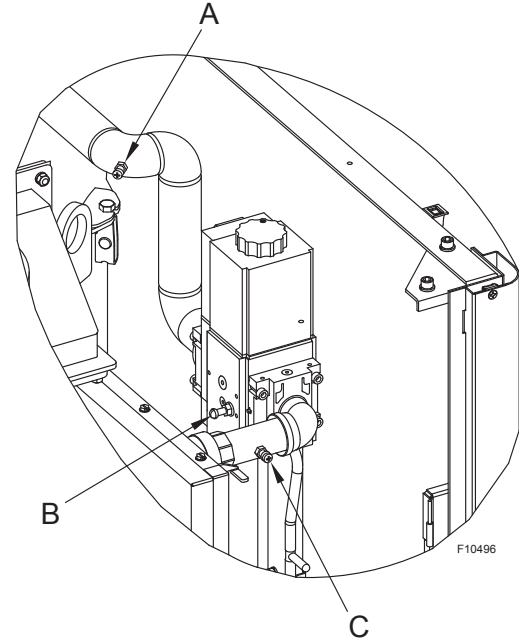

Figure 76. Gas Pressure Measurement Locations
2. Attach (1) 12" scale manometer to an upstream bleedle valve on the gas supply pipe to the boiler (Measure point "A" in **Figure 76**).
3. Attach (1) 24" scale manometer to the manifold pressure tap located near the shutoff valve downstream of the firing valve (Measure point "C" in **Figure 76**).
- Check manifold gas pressure at the gas valve outlet pressure tap (connection “C” in **Figure 76**). Refer to **Table AE** for natural and propane gas pressure ranges and tolerances.
Proper leak testing requires three pressure test points in the gas train. Remove the upper front panel to access the gas valve for this test. See **Figure 76**.